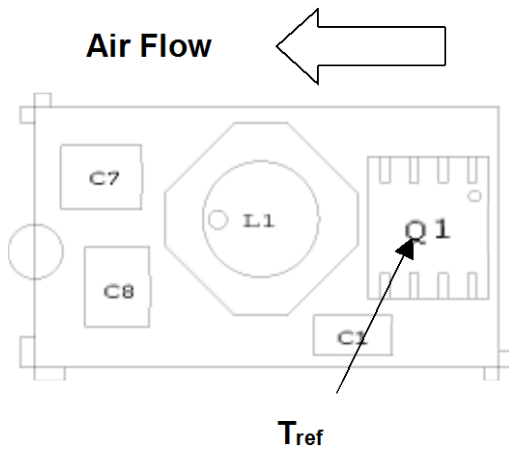
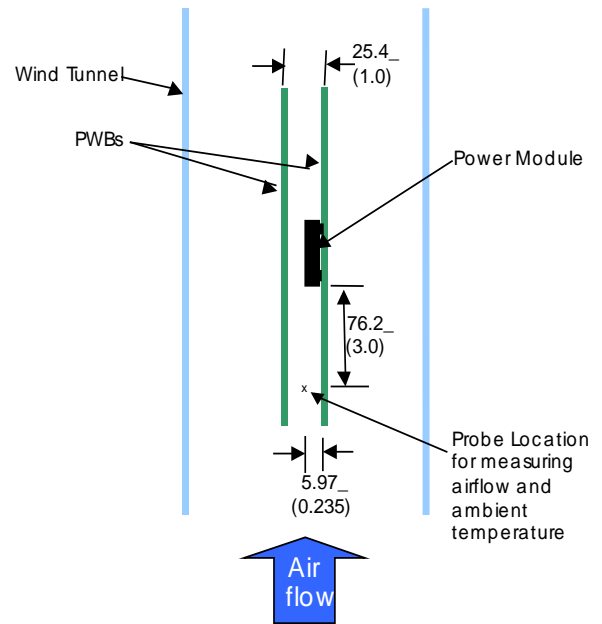

Figure 31. Tref Temperature measurement location.
Figure 32. Thermal Test Set-up.
To provide over temperature protection in a fault condition, the unit relies upon the thermal protection feature of the controller IC. The unit will shutdown if the thermal reference point T_{ref2} , (see Figure 31) exceeds $140^{\circ}C$ (typical), but the thermal shutdown is not intended as a guarantee that the unit will survive temperatures beyond its rating. The module will automatically restarts after it cools down.
Considerations include ambient temperature, airflow, module power dissipation, and the need for increased reliability. A reduction in the operating temperature of the module will result in an increase in reliability. The thermal data presented here is based on physical measurements taken in a wind tunnel. The test set-up is shown in Figure 32. Note that the airflow is parallel to the long axis of the module as shown in figure 31. The derating data applies to airflow in either direction of the module's long axis.
The thermal reference point, T_{ref} used in the specifications is shown in Figure 32. For reliable operation this temperature should not exceed 115°C.